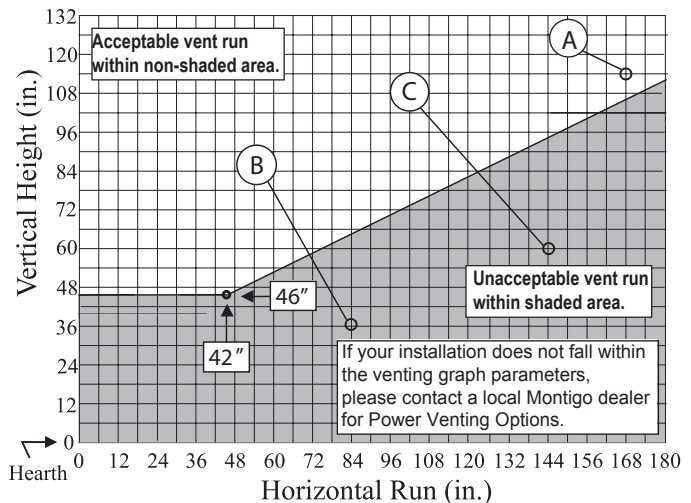

Figure 13. Top Vent Venting Graph for wall mounted terminations.
- Once the proposed venting layout has been determined refer to Figure 13 or 14 to ensure the layout is acceptable.
- Venting runs must fall within the limits set by the venting graph, see Figure 13.
Measure the vertical height from the fireplace hearth to the centre of the termination and the horizontal run from the fireplace flue collar to the wall flange of the termination. Plot on the Venting Graph Figure 13 with an 'X'.
Figure 13a. Top Vented, wall mounted installation with one 90° bend. The vent run must comply with Venting Graph for Top vent, wall mounted terminations, Figure 13.